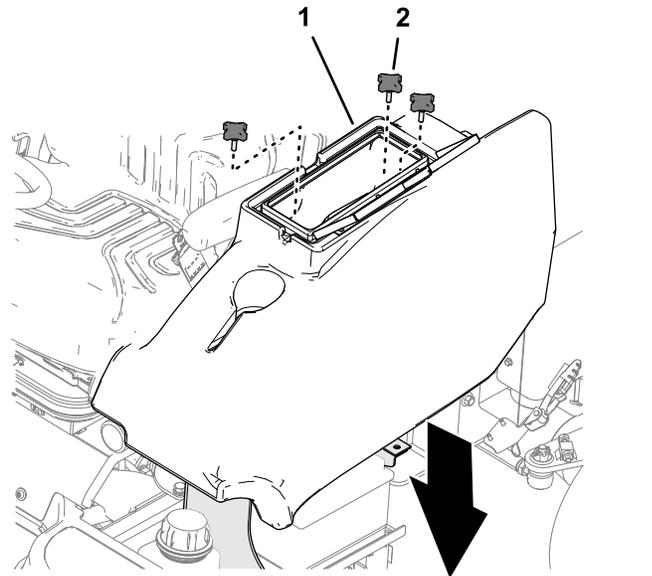

Figure 48
- Assemble the storage compartment to the machine with the 3 knobs (Figure 48)